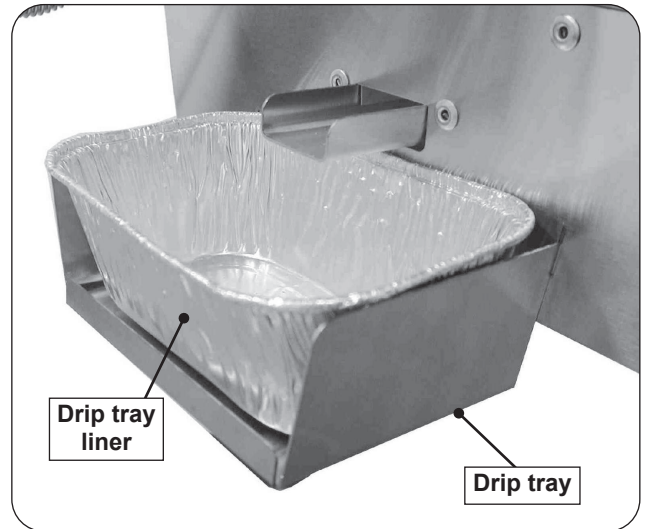

Fig. 27-1 Install drip tray
1. Through the enclosure side access door, install the drip tray by inserting the hooks into the two slots found on the lower right side of the grill (see Fig. 27-1).